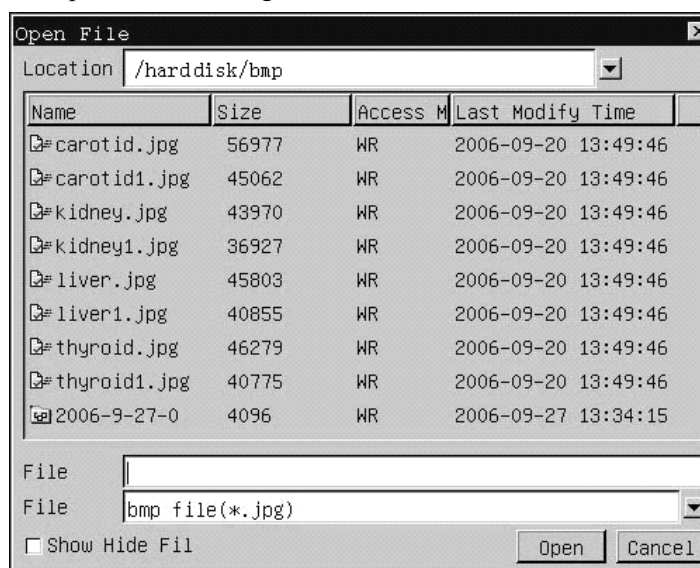

Fig. 14-2 The dialog box of open image
1. There is one frame for image input in the center of the report page (see above Fig. 14-2), press **【SET】** key on the frame to select it,